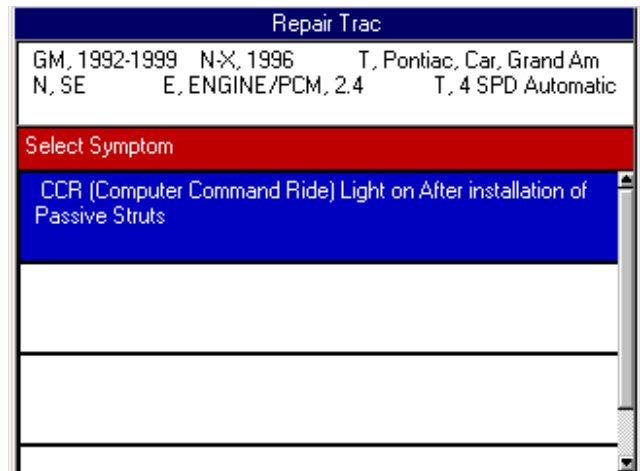

Figure 10.3: Repair Trac Symptoms Screen
- 3 On each screen that appears, **select an option** and then press the **ENTER** key. Do this until the vehicle is fully identified and the Repair Trac Symptoms screen appears (Figure 10.3).